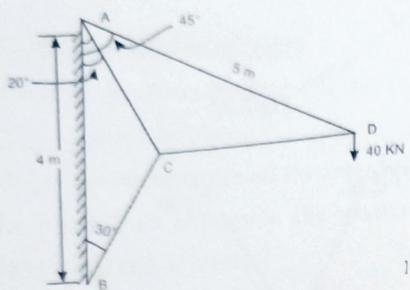

Fig 2.91
3) Determine the forces in the members BC and AD of the truss as shown in the fig. 2.91 by using method of joints. (Ans: BC = 70.7 kN (C), AD = 95.6 kN (T))